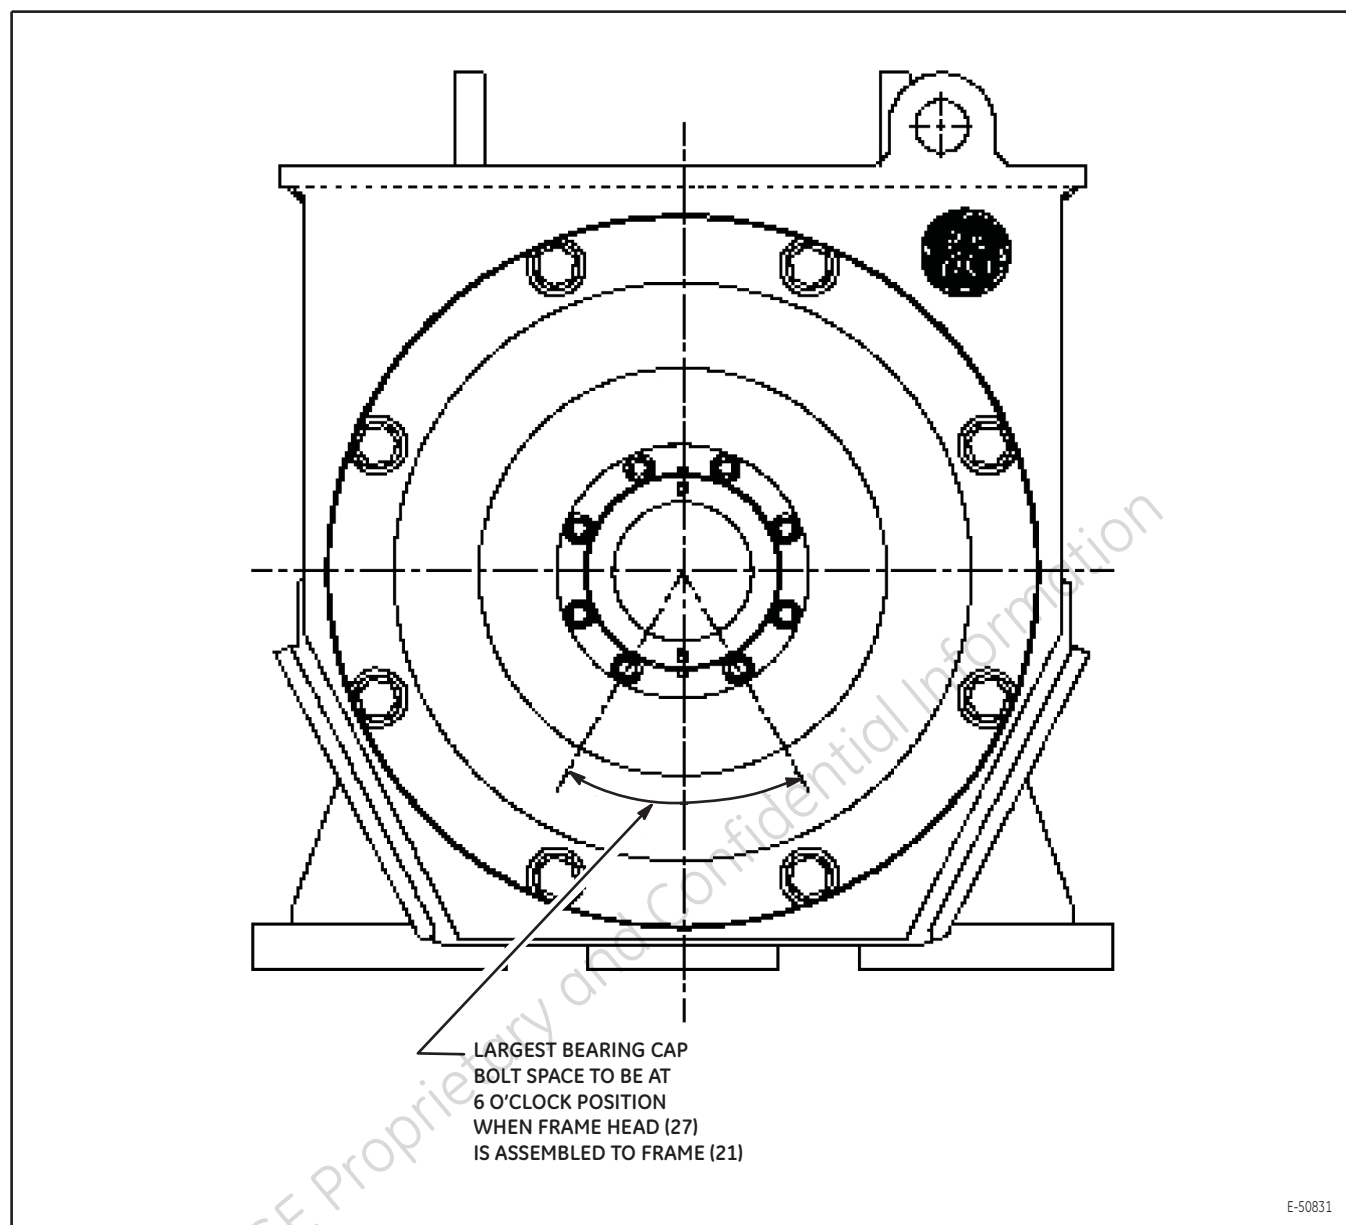

Figure 13. CE Frame Head and CE Bearing Cap Alignment.
1. The CE frame head (27) must be mounted on the stator frame (21) prior to rotor installation. If the CE frame head is not installed, install the CE frame head as follows:
- a. Ensure the stator frame (21) CE frame head fit is free of damage and burrs.
- b. Ensure the CE frame head (27) stator frame fit is free of damage and burrs.
- c. Align the CE frame head (27) on the stator frame (21) so that the largest gap on the CE frame head bearing cap mounting holes is toward the stator frame feet as shown in Figure 13 .
- d. Thread the CE frame head eight mounting bolts and hardened flat washers (28) through the CE frame head into the tapped holes of the stator frame (21).
2. Apply 2.8 oz. (79.4 g) of GE Specification D6A2C10 grease to the CE bearing cap (32).
3. Align the CE bearing cap (32) with the largest gap between holes toward the mounting feet as shown in Figure 13. Assemble the bearing cap (32) to the CE frame head (27) and inner bearing housing (35) with eight bolts and hardened flat washers (31), and torque the bolts to 115 ±5 lb-ft (155 ±7 Nm).